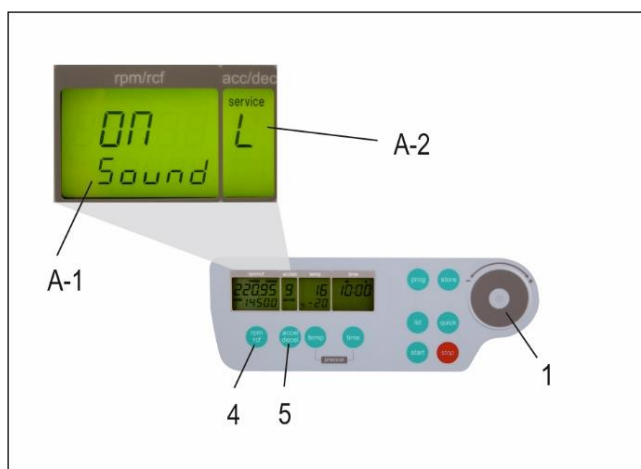

Figure 11
Proceed as illustrated, under point 1.8.1, to enter this program mode, press the key, "accel/decel" (5). In the display; "accel/decel" (A-2) flashes the word, "service". Select the letter, "b" with the control field (1). As a result, appearing in the display, "rpm/rcf" (A-1), the word "ON/BEEP". By pressing the key, "rpm/rcf" (4), the keyboard sound (On) or (Off) can be turned on, with the control field (1), (see Figure 11).